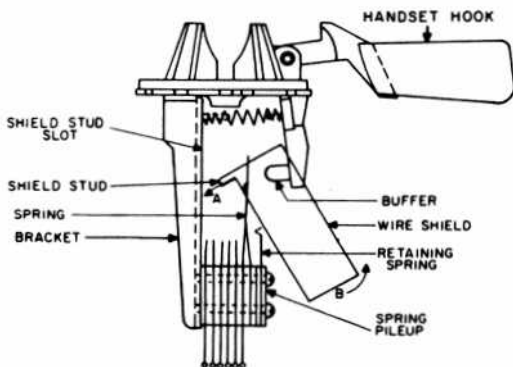

Figure 8. Hookswitch Wire Shield Removal.
4.02 To protect the wires and springs of the movable hookswitch, a clear-plastic wire shield is provided (Figure 8). This shield assures that the wires and springs will not become tangled when the installer changes the hook position. Refer to Figure 8 and use the following steps to remove the wire shield.
- (1) Move the top of the wire shield away from the bracket (Figure 8) to release the shield studs from the shield slots in the bracket.
- (2) Slide the wire shield up until it is clear of the retaining spring.
- (3) Position the wire shield as shown in Figure 8 and apply pressure simultaneously in directions denoted by arrows A and B. Slide the wire shield out from under the buffer.